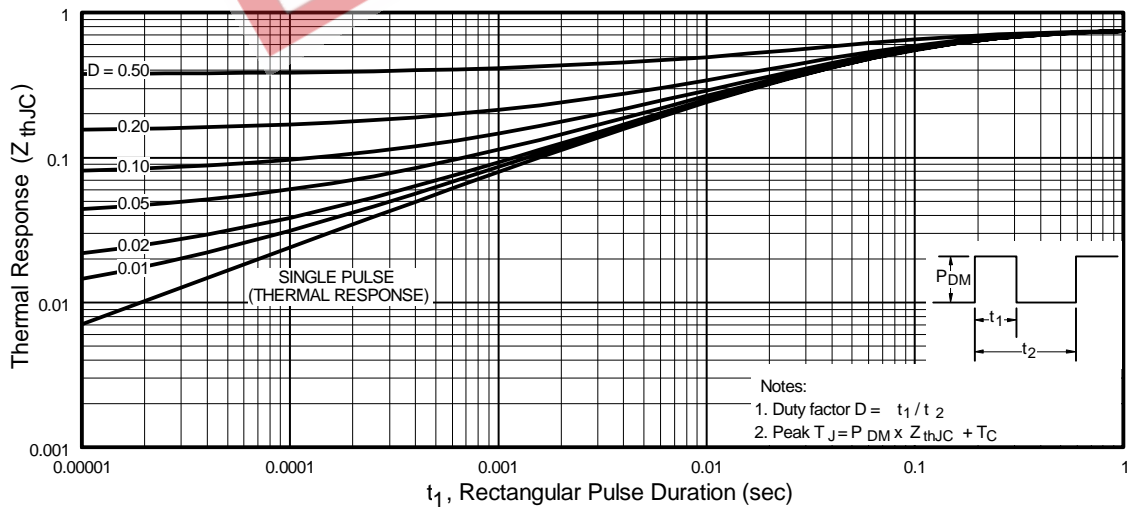

Fig 11. Maximum Effective Transient Thermal Impedance, Junction-to-Case
- ① Repetitive rating; pulse width limited by max. junction temperature. (See fig. 11).
- ② Starting $T_J = 25^\circ\text{C}, L = 0.35\text{mH}$